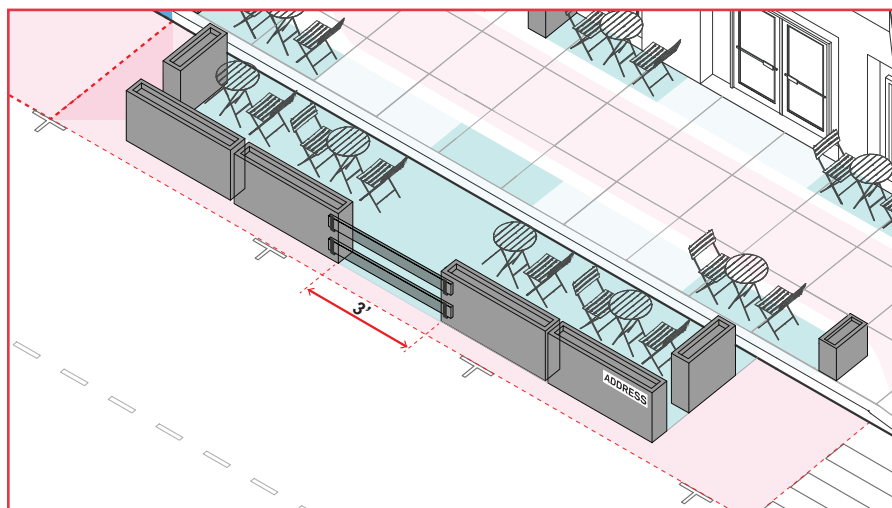

Figure 1
- A **minimum 3-foot-wide emergency access gap**, with vertical and horizontal clearance, is required for every 20 feet of structure length, or from existing adjacent Shared Spaces structures, parklets, or other structures in the parking lane. (see Figure 1)